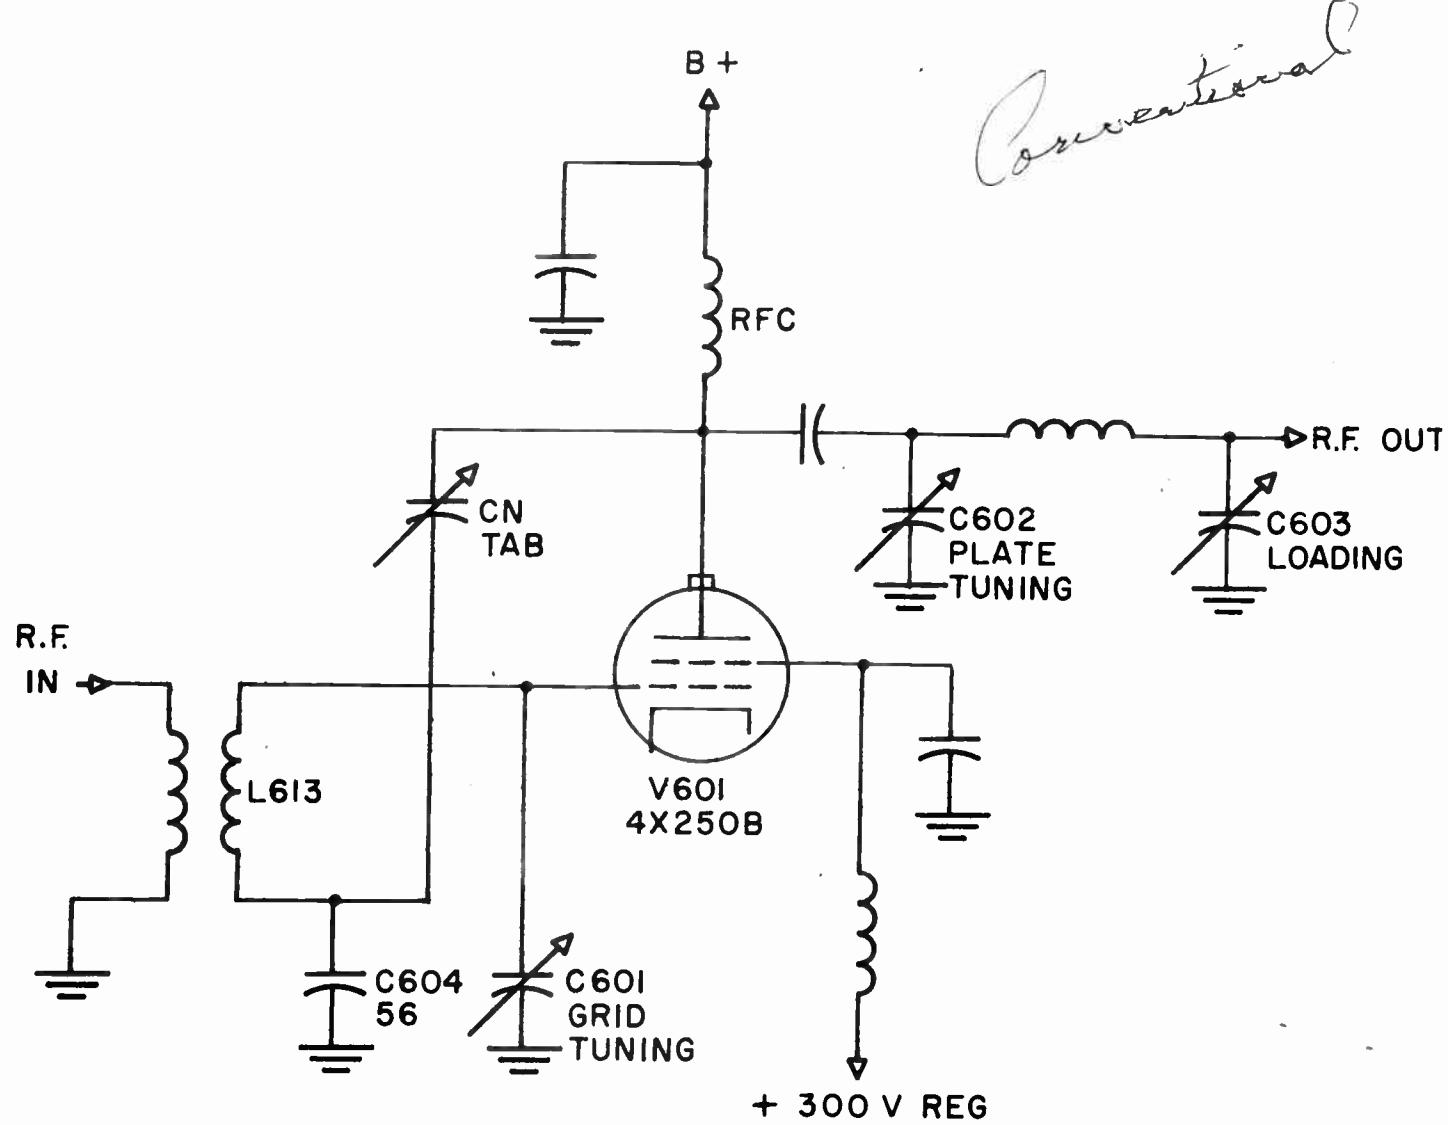

FIGURE 4-2 S-1788 250W POWER AMPLIFIER, SIMPLIFIED SCHEMATIC
- 4-10. The power amplifier utilizes a single 4 X 250B V601, See Figure 4-2, 5-7, operating as a conventional class C amplifier. Two VR150 voltage regulator tubes V602 and V603 connected in series furnish regulated screen voltage for V601.
This is done by a small metal tab (CN TAB, see Figure 4-2) which is mounted adjacent to the plate of the 4X250B V601 and connected to the bottom of L613 for proper phasing.